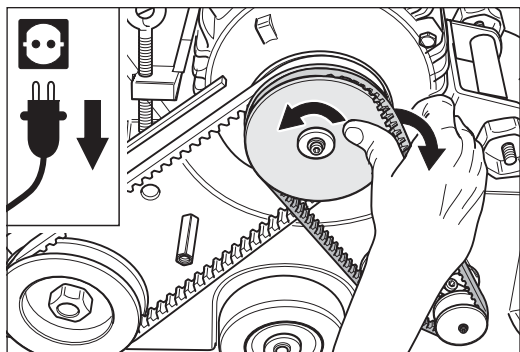

Fig. 61 Remove the fan V-belt.
- 8 Turn the motor pulley and allow the fan V-belt to run off the motor pulley (Fig. 61).